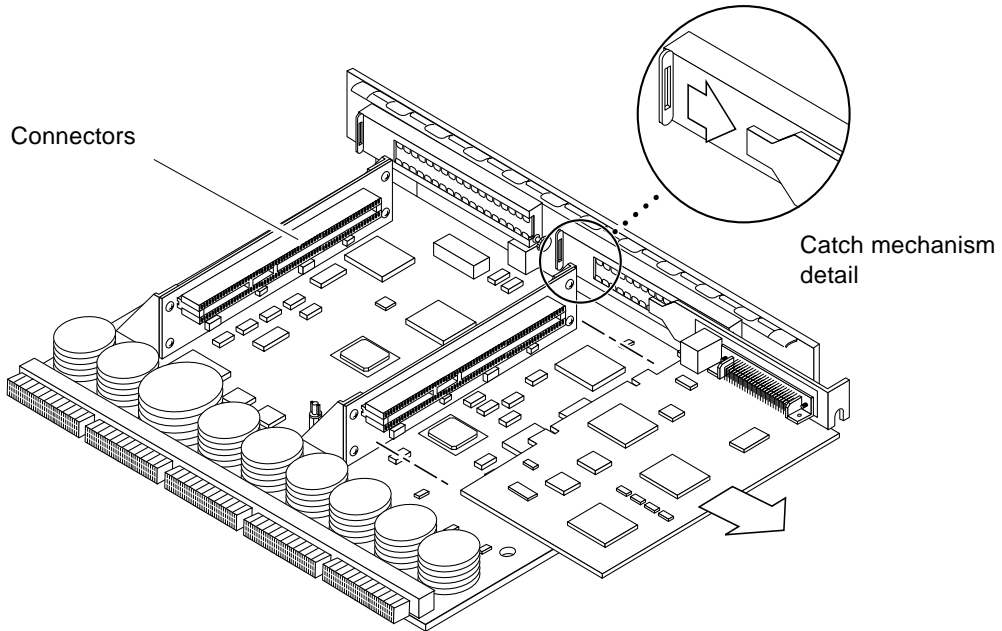

FIGURE 1-5 PCI Card Removal
4. Grasp the card to be removed with your index fingers on either side of the card where it mates with the connector on the riser card, thumbs against the connector (FIGURE 1-5).
5. Once the card is free of the PCI bus connector and the metal catch mechanism, remove the card from the I/O board (FIGURE 1-5).